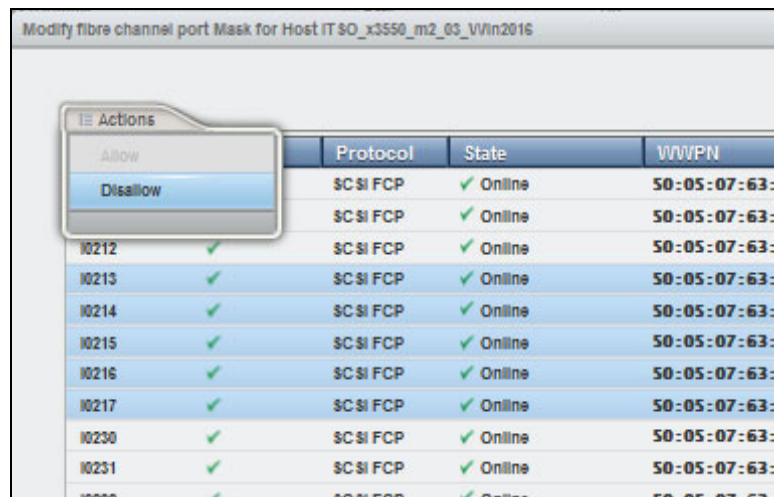

Figure 11-79 Modify Fibre Channel Port Mask
2. A list of the DS8880 fibre channel ports is displayed. Select one or more ports to disallow. You can use the **Ctrl** or **Shift** key for multiple selections. Click **Save**. See Figure 11-79.